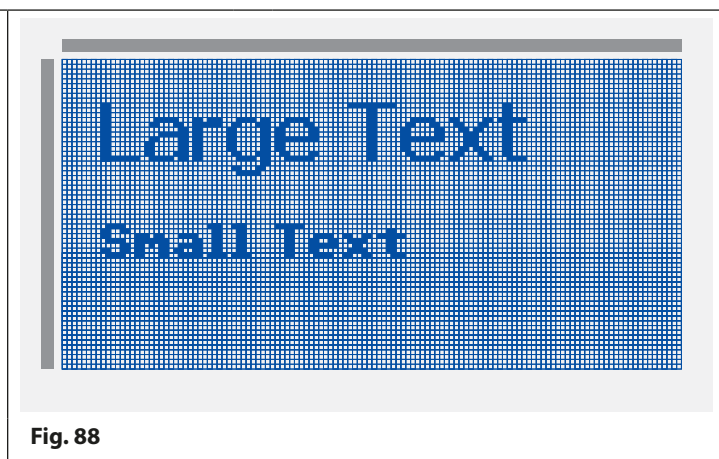

Fig. 88
- The text entered into the field will appear in the main editing area where the pointer was last positioned, as shown in **Fig.88**.